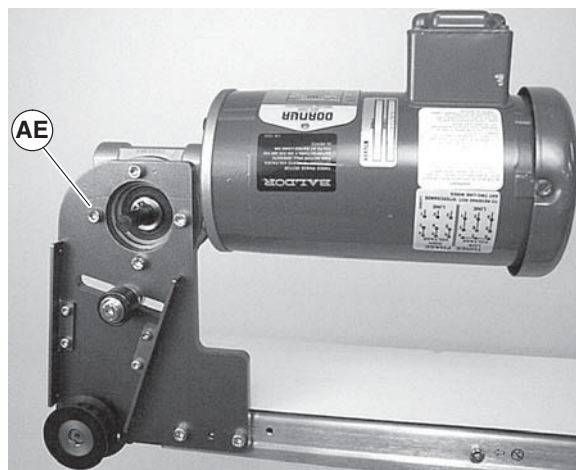

Figure 23
5. Remove four (4) gear reducer mounting screws (Figure 23, item AE). Remove gearmotor.